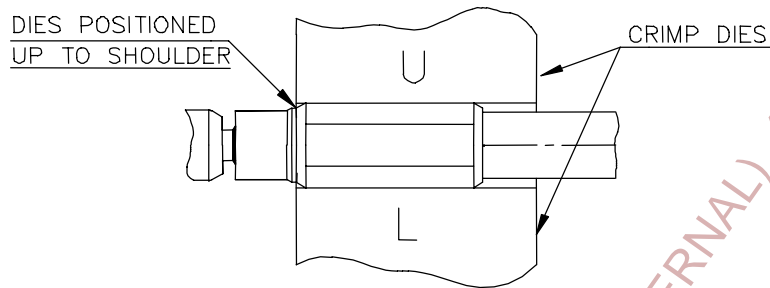

Figure 5 Positioning of Crimp Jaws
- 2.5.5 Using crimp tool 451716 together with crimp dies 457440 code B (2,74/2,84 A/F) crimp along the length of the crimp sleeve. Position the dies as shown in Figure 5 crimping both the Kevlar and cable outer sheath.